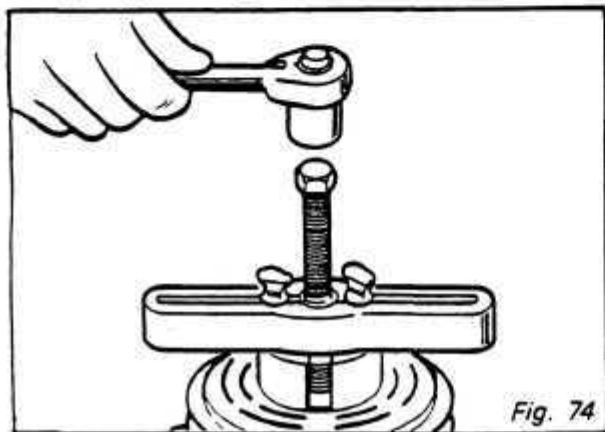

Fig. 74
- Turn puller center bolt clockwise using $\frac{3}{4}$ " socket until rotor pulley is free. Figs. 74–75